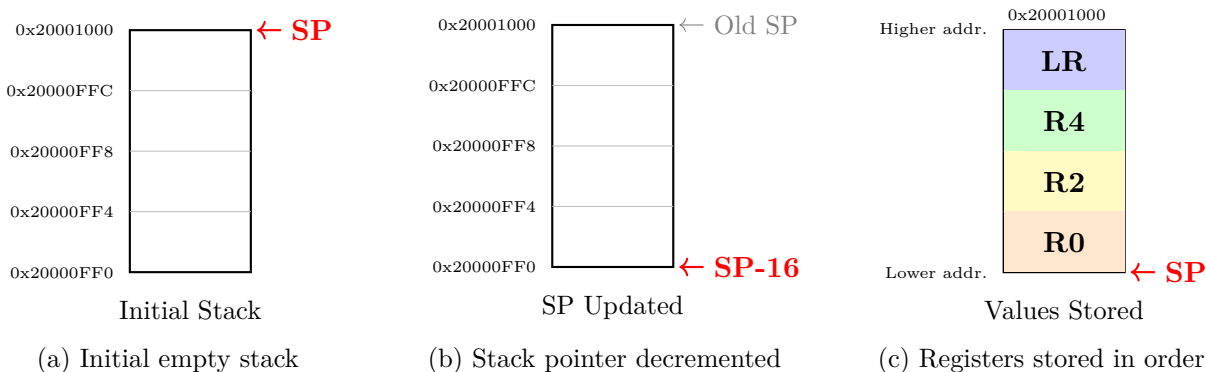

Figure 3.1: Stack operation sequence for PUSH {R4, R0, R2, LR}
Explanation: Figure 3.1(a) shows the empty stack with SP at the top (highest address). When PUSH executes, the processor **decrements SP by 16 bytes** to reserve space for four registers (Figure 3.1(b)). Finally, in Figure 3.1(c), values are stored according to the rule: the lowest-numbered register (R0) at the lowest address, then R2 and R4, and the highest-numbered (LR) at the highest address. Because the stack grows downward, SP points to the last written word after the operation.